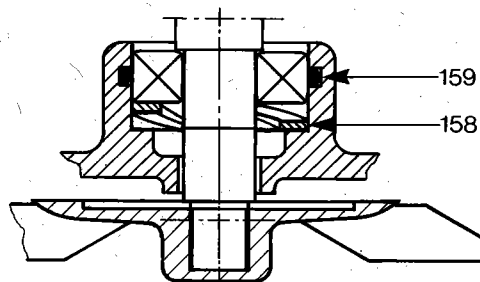

Fig. 1
Press the O-ring, pos. 159, into the recess of the stator and fit the corrugated spring, pos. 158, see fig. 1.